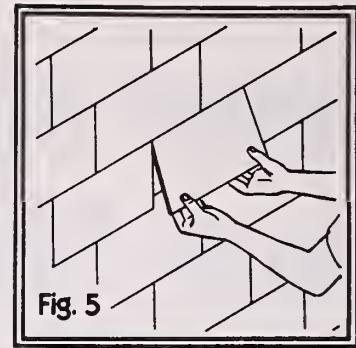
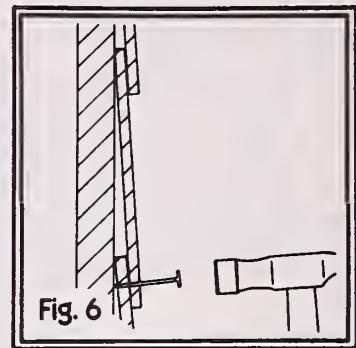

Fig. 5
Fig. 6
3. Slip the new shingle into position (fig. 5). Nail the shingle in place with galvanized shingle nails (fig. 6).